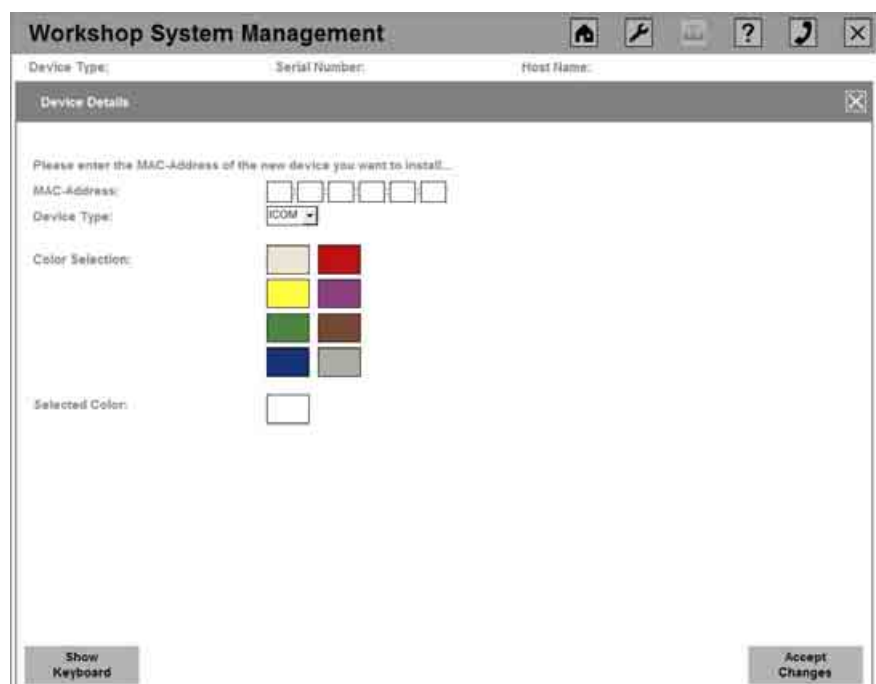

Fig. 69: Setting up a new ICOM in the WSM
- In the dialog box that follows (see Fig. 69), enter the MAC address of the device (which you noted down before) and select the device type "ICOM".